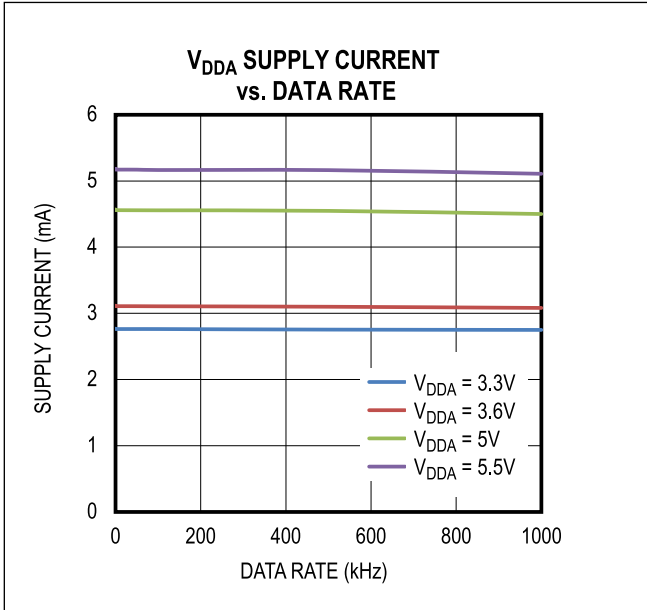
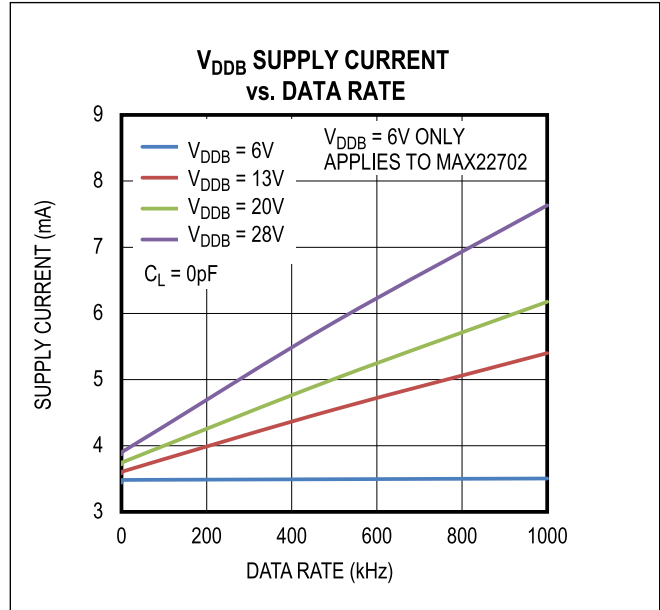

Figure 15.  $V_{DDA}$  Supply Current vs. Data Rate (typ)
Figure 16.  $V_{DDB}$  Supply Current vs. Data Rate (typ)
The required current for the A side of the MAX22700–MAX22702 depends on the  $V_{DDA}$  supply voltage and the data rate. The required current for the B side of the MAX22700–MAX22702 depends on the  $V_{DDB}$  supply voltage, the data rate, and the load condition. The typical current for different  $V_{DDA}$  and  $V_{DDB}$  supply voltages at any data rate without external load can be estimated from the graphs in Figure 15 and Figure 16. Please note that the data in Figure 15 and Figure 16 are extrapolated from supply current measurements in a typical operating condition.
The total current for the B side is the sum of the “no load” current (shown in Figure 16) which is a function of the voltage and the data rate, and the “load current”, which depends on the load impedance. Current into a capacitive load is a function of the load capacitance, the switching frequency, and the supply voltage.
**Example:** A MAX22701 is operating with  $V_{DDA} = 5V$ ,  $V_{DDB} = 20V$ . The output is operating at 10kHz with 1nF capacitive load.  $V_{DDA}$  must supply about 4.56mA with a 10kHz data rate and a 5V supply voltage according to Figure 15.  $V_{DDB}$  must supply the sum of the no load current and the load current. The no load current is about 3.77mA with a 10kHz data rate and a 20V supply voltage according to Figure 16. The load current is equal to  $1nF \times 10kHz \times 20V = 0.2mA$ .  $V_{DDB}$  must therefore supply about 3.97mA. The total power dissipation is  $5V \times 4.56mA + 20V \times 3.97mA = 102.2mW$ .